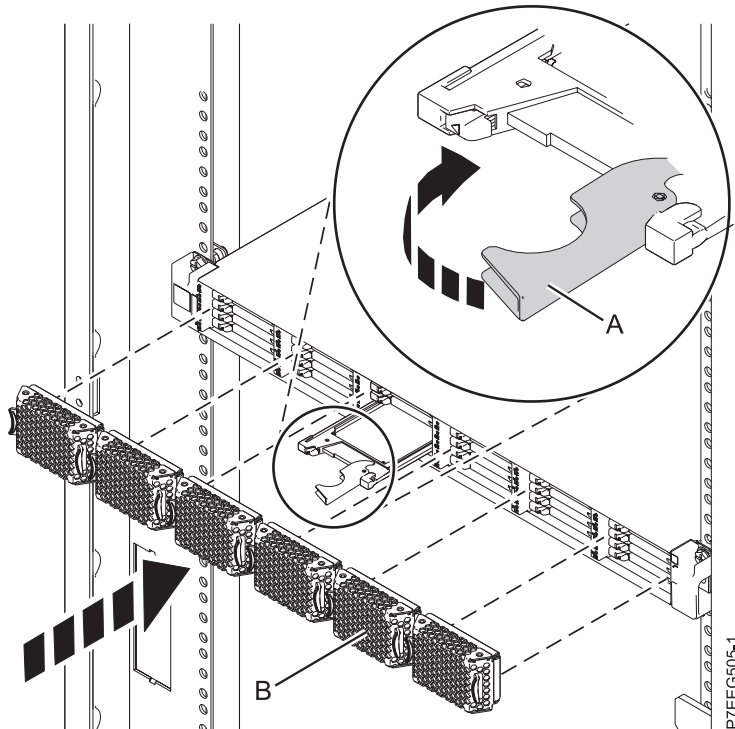

Figure 19. Installing a solid-state drive in the EDR1 PCIe storage enclosure
1. With the handle in the unlocked position, align the solid-state drive with the guide rails in the enclosure. See Figure 19 on page 32,
3. Rotate the handle (A) to the locked position, as shown in Figure 19 on page 32.
4. Install the bezel (B).